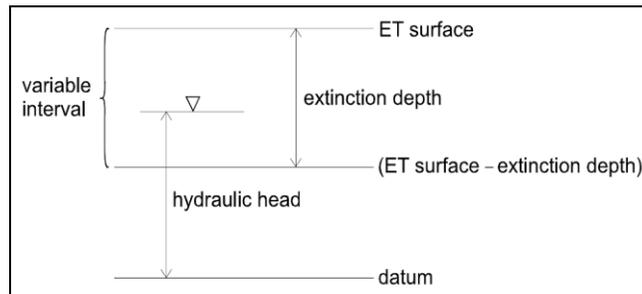

Figure 1 ET model, from Banta (2000)¹
The EVT package—existing since at least MODFLOW 88—requires three parameters to determine evapotranspiration: the evapotranspiration (ET) surface elevation, the maximum ET rate, and the extinction depth. When the head in a cell is at or above the ET surface, ET occurs at the maximum ET rate. When the head is below the extinction depth, ET is zero. In between these two points, the ET varies linearly (Figure 1).